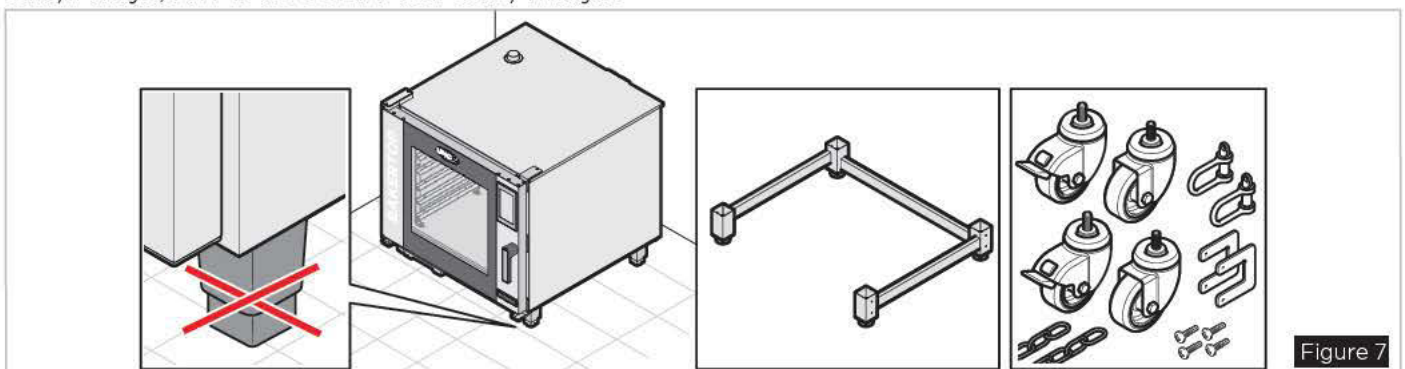

Figure 7
- ⊕ Two different Unox kits are available for floor positioning (see Figure 7):